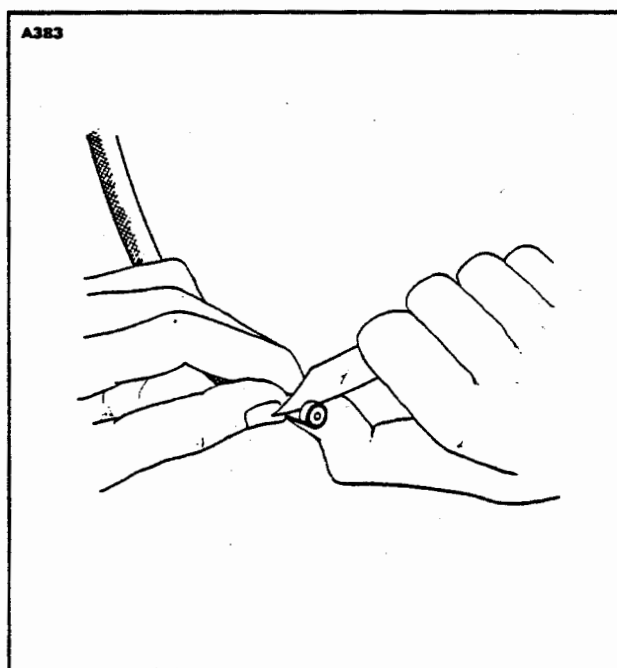

Figure 8-23. Cutting Insulation
- e. Cut exposed insulation 0.062 inch and .125 inch for Bendix magnetos back from end and roll the insulation clockwise to remove it. Do not pull the insulation off the wire. Trim the end of the coiled conductor to make a clear hole for inserting the stud. Refer to Figure 8-23.